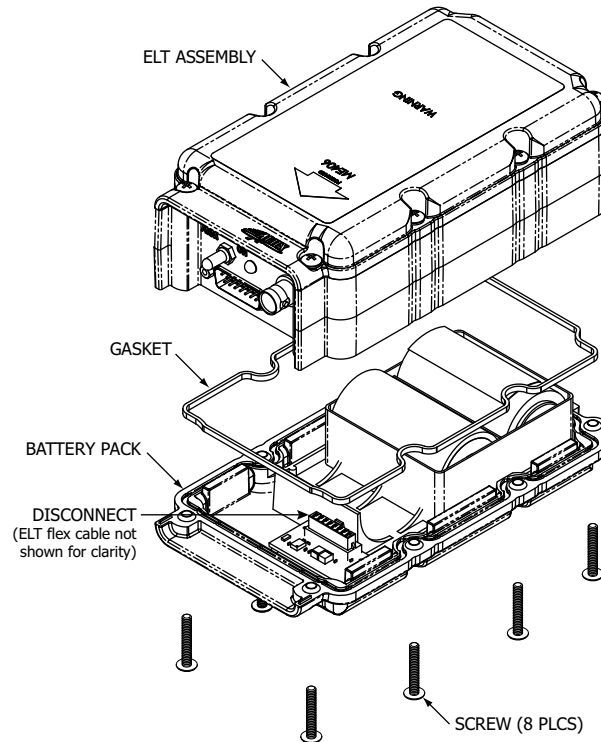

Figure 12 Battery Pack Removal
- (1) See Figure 12 Battery Pack Removal.